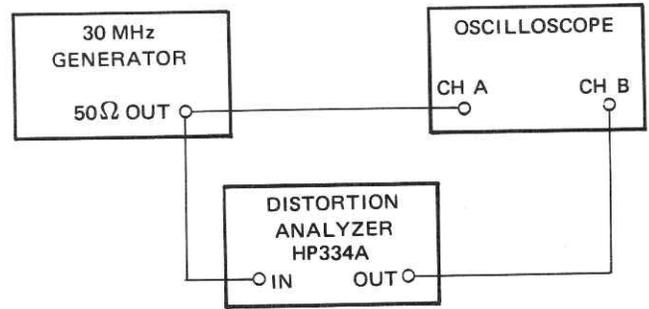

Figure 4-2. Distortion Test Setup
- Set the FREQ (Hz) switch to X 1K, the frequency dial to 1.0 and the WAVEFORM selector to \sim . Connect the 50 Ω OUT (HI) to a distortion analyzer loaded with a 50 Ω terminator. (See Figure 4-2 for test setup.)